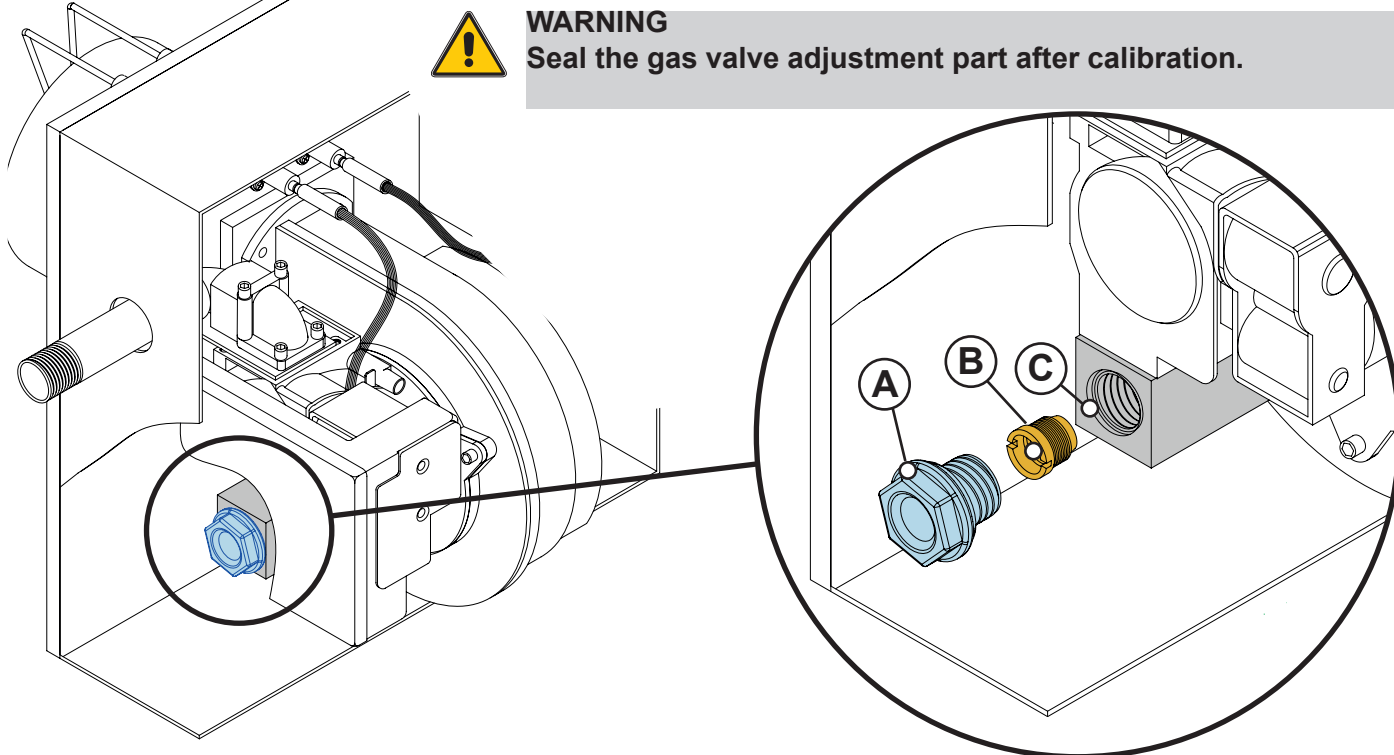

Fig.9.1 Nozzle change (Eolo 100, Eolo 120)
- 2) Unscrew the cap (A), fig. 9.1, from the nozzle holder fitting (C).
- 3) Unscrew the nozzle (B) located inside the fitting (C).
- 5) Screw the nozzle into the housing (C).
- 6) Screw the cap (A).